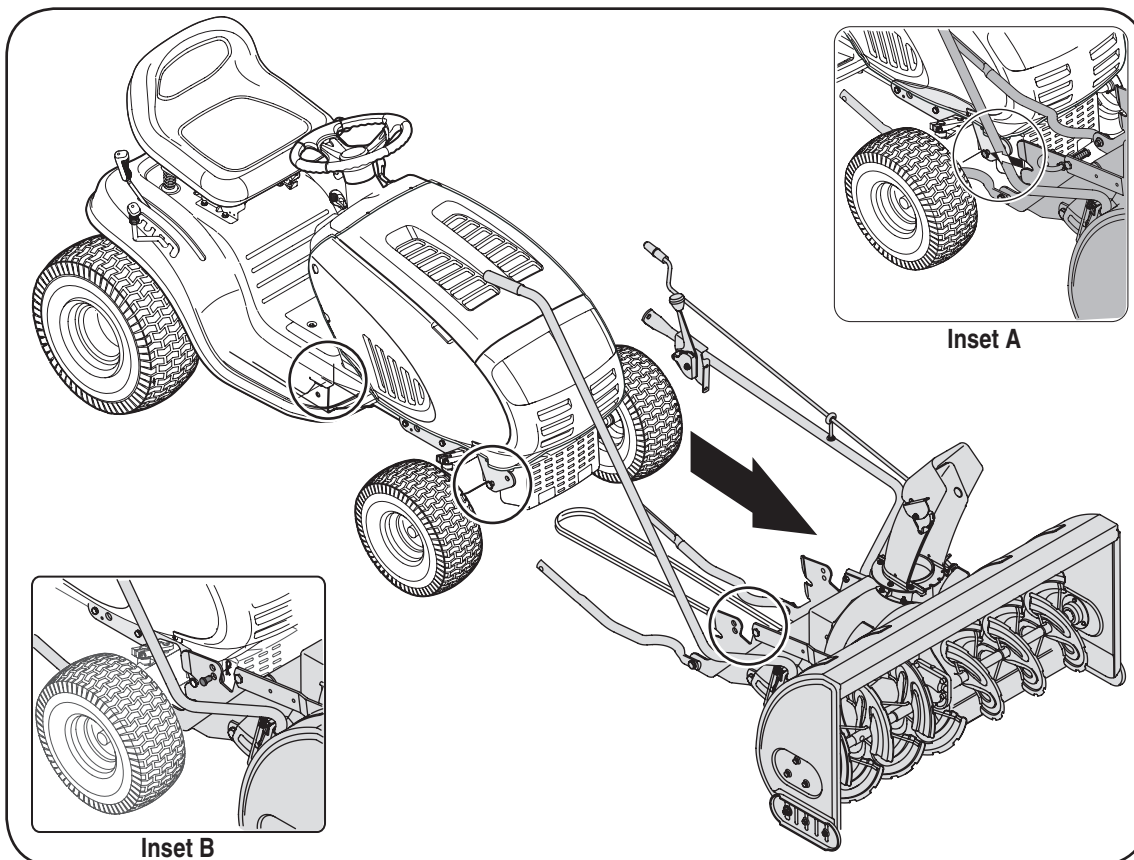

Figure 27
1. Position the auger housing assembly in front of the tractor as seen in Figure 27. Lay the belt and support tubes out as seen above.
3. With the help of an assistant, lift up the auger housing up and move the attachment back aligning the hooks found on the rear of the lift assembly over the shoulder bolts found on both the left and the right sides of the tractor's front pivot support brackets. See Figure 27 Inset A.
4. Maneuver the auger housing until the mounting holes lineup. Insert a clevis pin from your hardware pack and secure with a click pin, into the tractor's front pivot support brackets seen in Figure 27 Inset B.